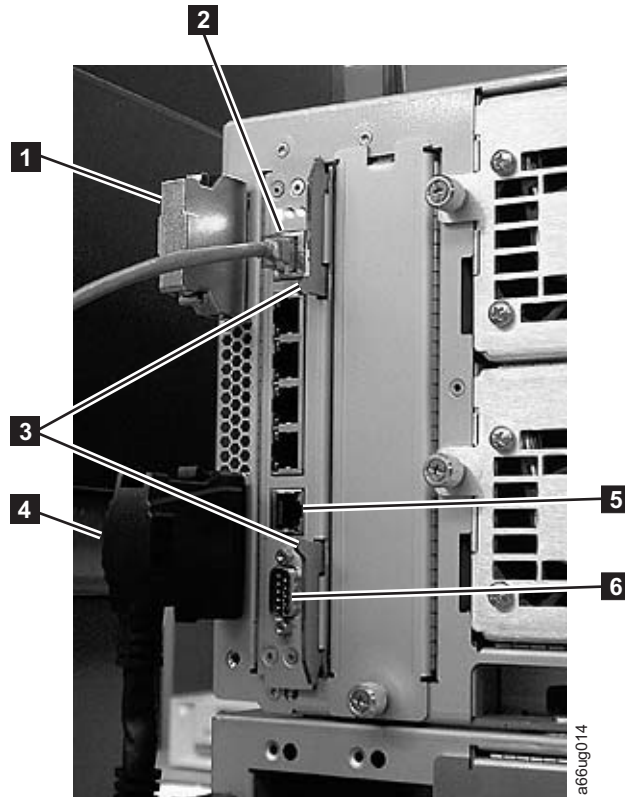

Figure 8-29. Library Control Blade (LCB)
3. Grasp the pair of latches near the top and bottom of the LCB (**3** in Figure 8-29) by pushing them in until they click into place.
4. Reconnect the Ethernet cable (**2** in Figure 8-29) by pinching the tab and pushing the connector into the LCB.
Note: Six slots reside below the Ethernet cable. The four topmost slots are reserved for future use. The two bottommost slots are designated as Ethernet (**5** in Figure 8-29) and serial (**6** in Figure 8-29) ports, and are reserved for use by IBM Service Personnel.